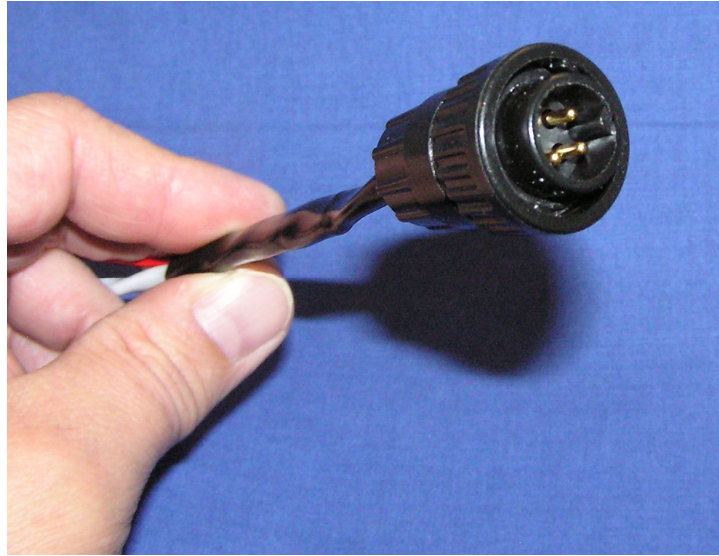

Figure 18: Coil Pack Harness Plug (C2)
- i. Route the harness with the round BLACK connector(C2) to the Coil Pack. This harness is terminated with a round plug type connector. See Figure 18 for how the harness should look. **CAUTION: There is a noise suppressor capacitor in the harness just below Coil Pack Connector (covered by heat shrink). Use extreme caution when routing this harness. DO NOT make sharp bends in the portion of the harness covered by the heat shrink. Make all bends past the heat shrink tube covered portion of the harness. This will prevent damage to the capacitor. Please call Electroair Tech Support if there are any questions.**